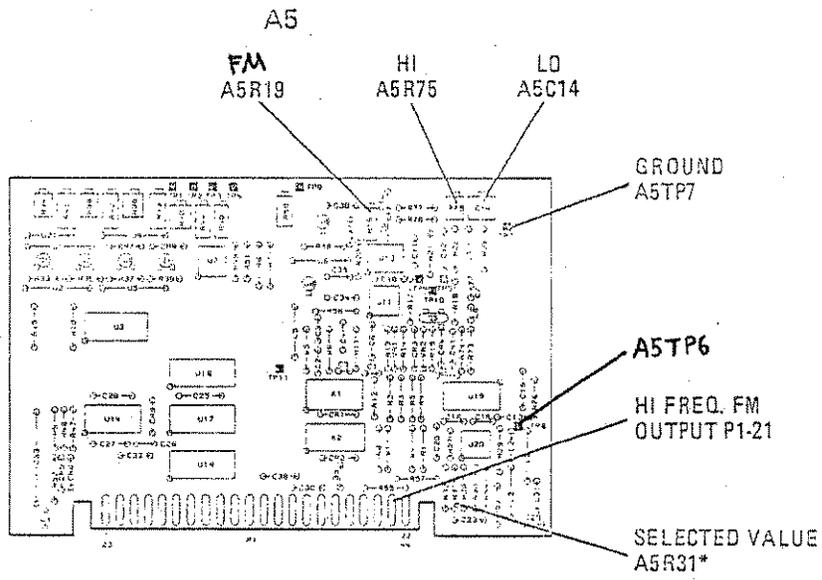

Figure 5-41. Location of A5 FM Driver Adjustments
2. Connect the DVM between A5TP6 and A5TP7 (HIGH FREQ FM RET). Refer to Figure 5-41 for adjustment procedure locations.